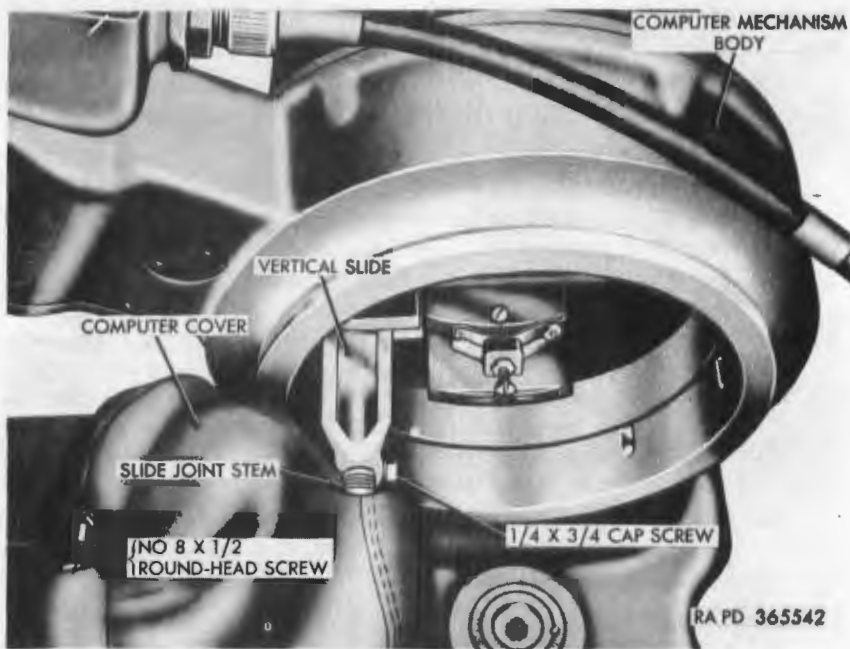

Figure 49. Computer with computer cover removed.
- (4) Loosen No. 8 x $\frac{1}{2}$ roundhead screw (fig. 49) which clamps computer cover to the base of computer mechanism body and drop cover to expose end of vertical slide and slide joint stem. Loosen $\frac{1}{4}$ x $\frac{3}{4}$ cap screw in vertical slide and screw slide joint stem in or out until computer mechanism body is level within ± 1 mil.
- (5) Tighten the $\frac{1}{4}$ x $\frac{3}{4}$ cap screw (fig. 49) in vertical slide. Position computer cover on computer body and secure by tightening the No. 8 x $\frac{1}{2}$ roundhead screw.